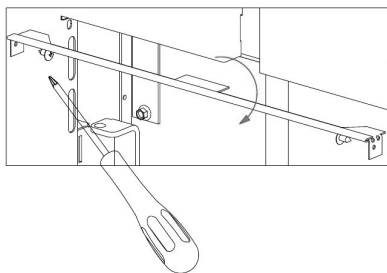

Fig. 53 - Remove profiles
- Loosen the 4 screws and remove the black panels above and below the door (see **Fig. 53**).